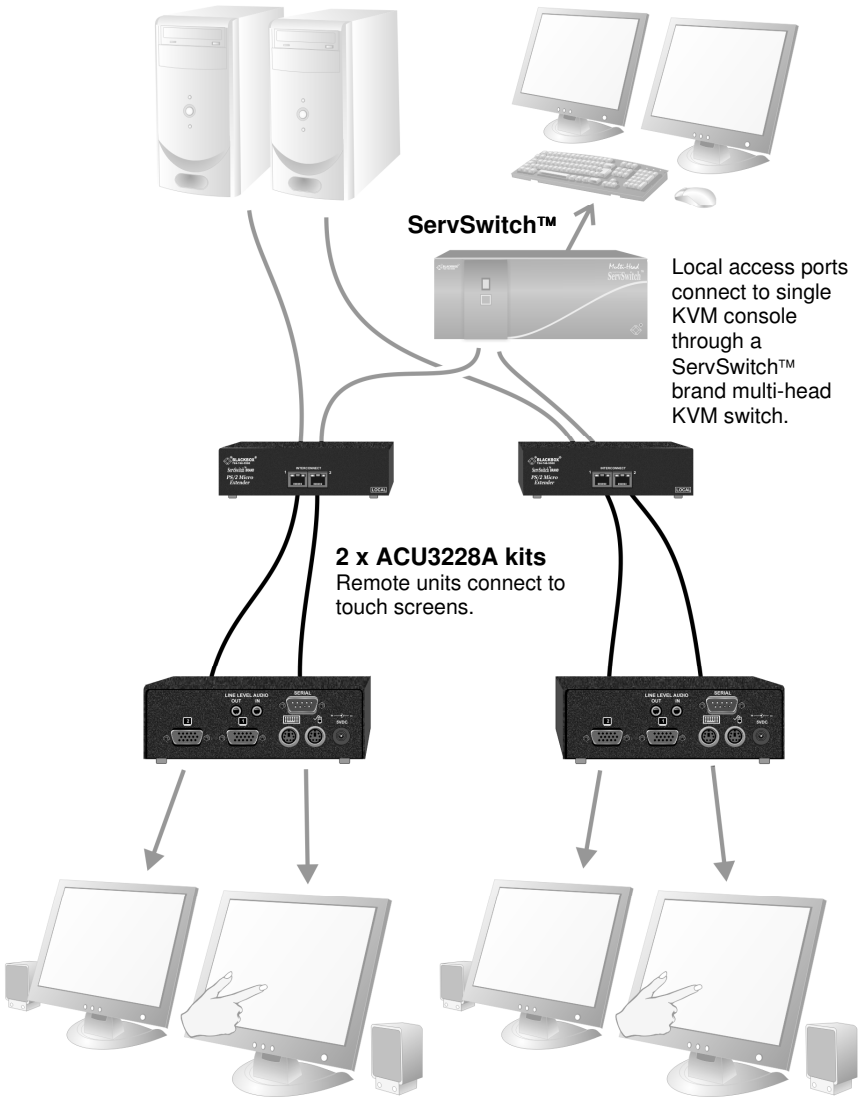

Figure 8
- Remote serial touch screens with Local access through a KVM switch (Figure 8). Requires two ACU3228A kits.